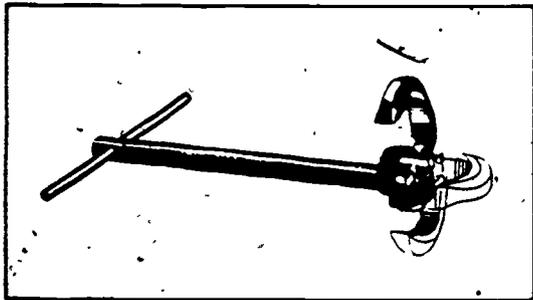

Figure 3-43. Basin wrench.
*Basin wrench.* The basin wrench, illustrated in figure 3-43, is a tool used to turn nuts that are hard to get at; for example, the nuts which connect the water supply line to the faucets under a lavatory or sink. The jaws of the wrench are adjustable over an arc of 180° so that the wrench can be used to loosen nuts as well as tighten them. Make sure that the jaws are clean and sharp and that the movable parts are well oiled. When the teeth become dull, they should be sharpened.